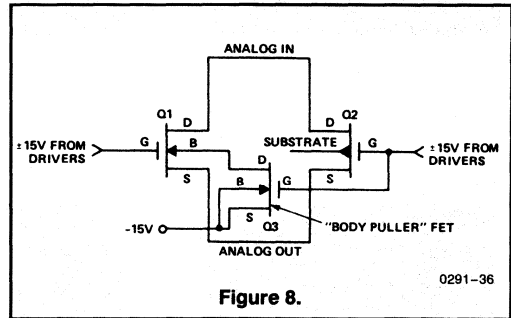
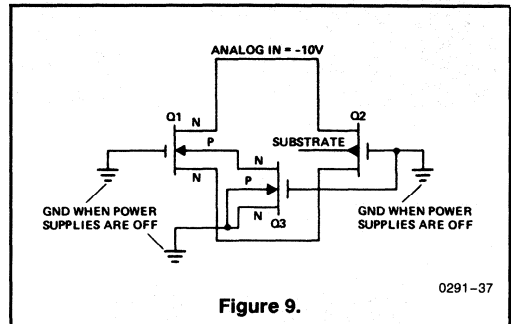

Figure 8.
Figure 9.
**TTL OPEN COLLECTOR LOGIC DRIVE (Corresponds to Figure 8)**
**TTL OPEN COLLECTOR LOGIC DRIVE (Corresponds to Figure 9)**
The typical channel of the IH5140 family consists of both P and N-channel MOSFETs. The N-channel MOSFET uses a "Body Puller" FET to drive the body to -15V (±15V supplies) to get good breakdown voltages when the switch is in the off state (See Fig. 8). This "Body Puller" FET also allows the N-channel body to electrically float when the switch is in the on state producing a fairly constant  $R_{DS(ON)}$  with different signal voltages. While this "Body Puller" FET improves switch performance, it can cause a problem when analog input signals are present (negative signals only) and power supplies are off. This fault condition is shown in Figure 9.